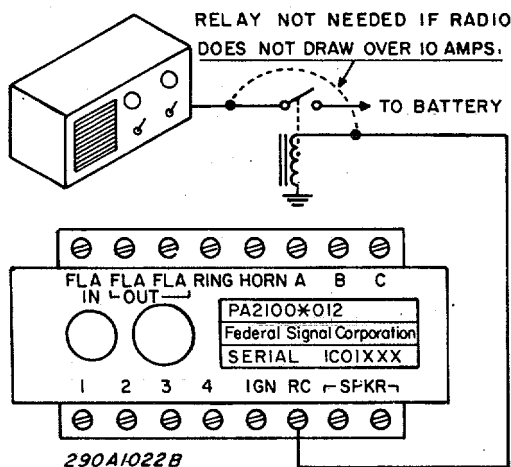

Figure 3-8. Radio Control Connections.
Proper connection of the radio control circuitry allows power to be supplied to the two-way radio whenever the vehicle's ignition is on or when the SELECTOR switch is set to RADIO (radio rebroadcast). To perform this connection, proceed as follows (see figure 3-8):
B. If the two-way radio draws more than 10 amperes of current, install a 12V DC relay in the circuit, Connect one end of the relay coil to the RC terminal on the rear of the siren module. Ground the other end of the relay coil. Use the relay contacts to control power to the radio. See figure 3-8.